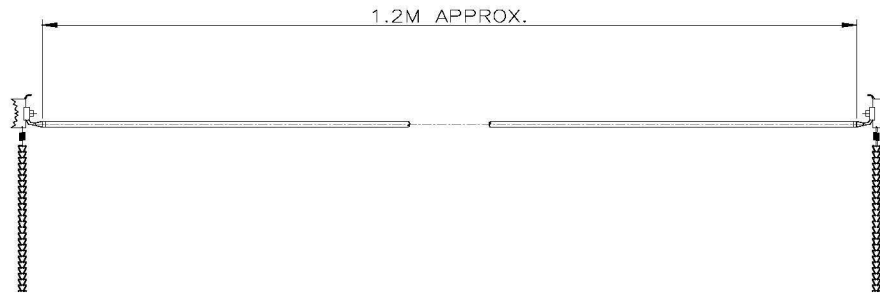

Figure A34 - Temporary Continuity Bond (TCB).
- The correct squeeze off distances shall be maintained between fittings or joints (Figure A34).
3. A TCB shall be fitted before any metallic pipe work or meter is connected, disconnected or cut. The correct type of continuity bond should be selected prior to the work beginning, ensuring that the correct type clamp is used and is properly attached to the pipe (Figure A34).